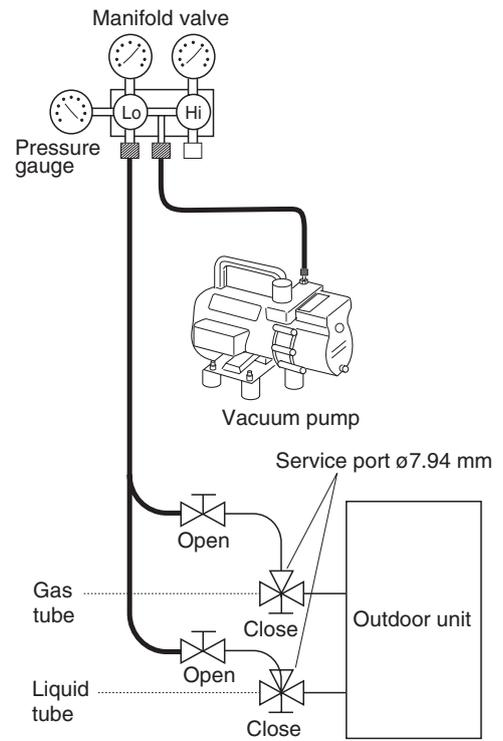

Fig. 2-36
- When the desired vacuum is reached, close the “Lo” knob of the manifold valve and turn off the vacuum pump. Confirm that the gauge pressure is under  $-101$  kPa ( $-755$  mmHg, 5 Torr) after 4 to 5 minutes of vacuum pump operation. (Fig. 2-36)